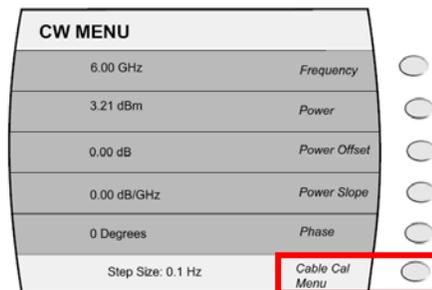

Figure 9
1. On 2400B / 2500A, from the CW menu, press the “Cable Cal Menu” softkey. See figure 9.